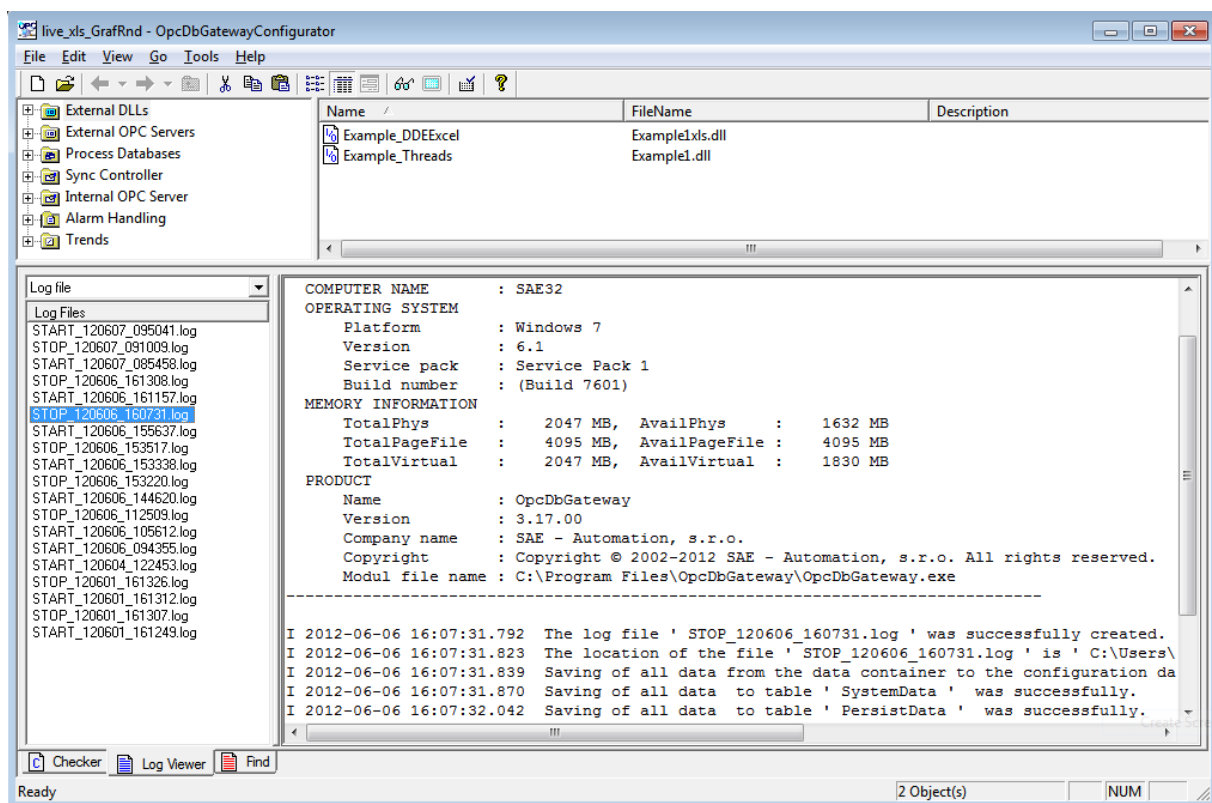

Figure 1 Log Viewer in OpcDbGateway displays list of created files and content of chosen file
- Header (see in Figure 1)
Log view (Figure 1) in the OdbGw/SUOS configuration application serves for viewing of log files and alarm log files. User can choose the viewed one in the combo box. If the OdbGw/SUOS is running and creating new log files list control automatically displays new created log files. Rich edit control shows the contents of actually selected log file. The content is still refreshed. Error messages are in red colour. With the right mouse button on rich edit control can user validates the checksum of a log file.